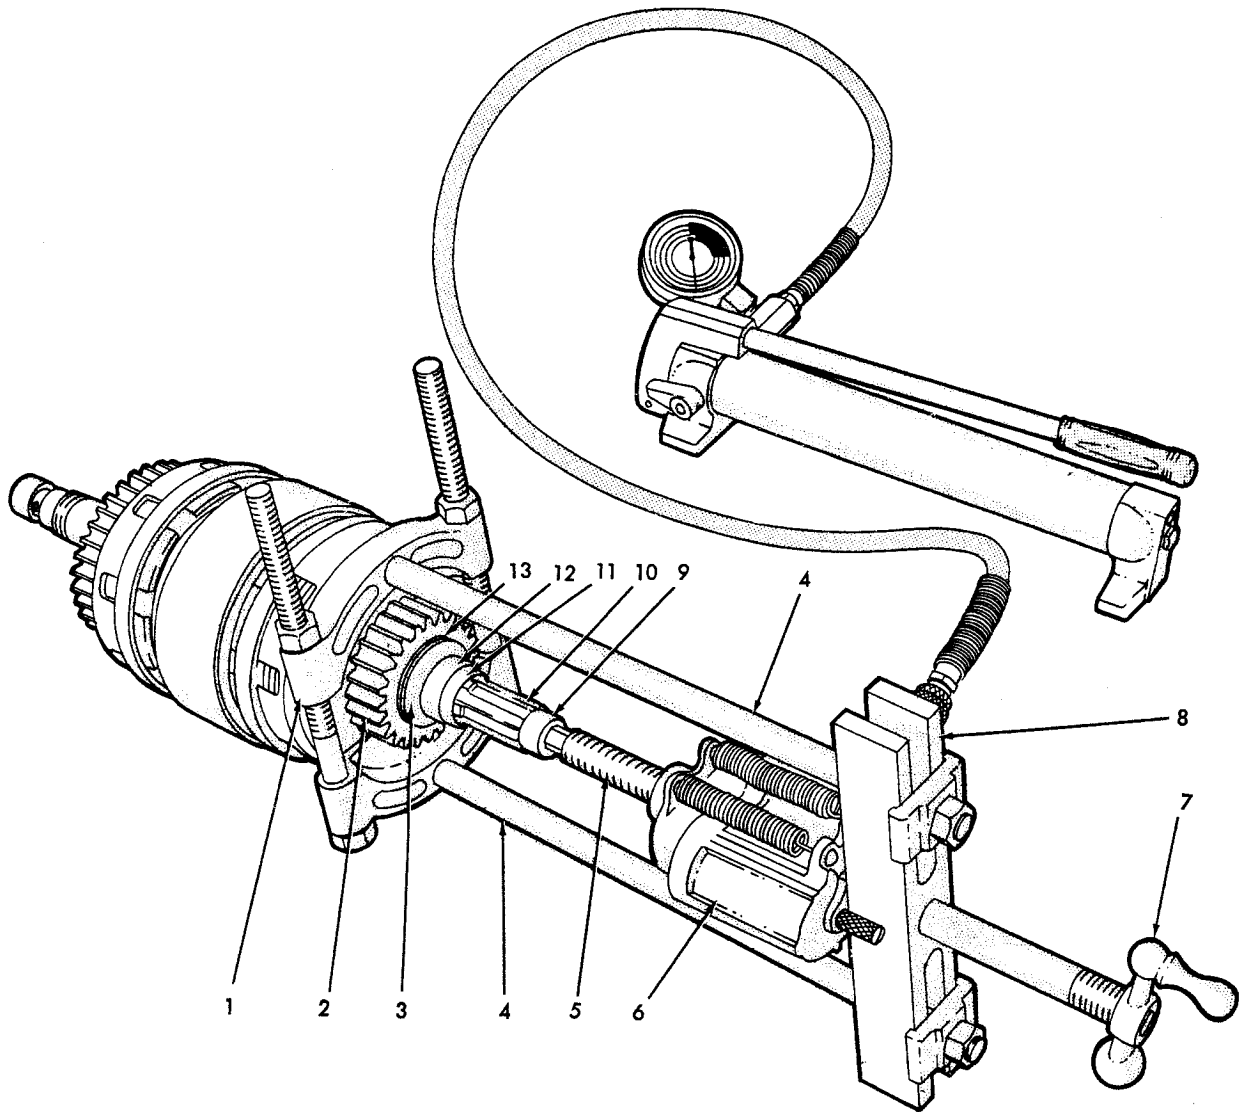

Fig. 32 -- Removing Rear Clutch Drum and Gear
- a. Remove snap ring from rear end of shaft. Attach puller behind rear clutch drum gear teeth, Fig. 32; pull oil seal sleeve (top shaft only), rear bearing inner race, rear bearing spacer, rear clutch drum and gear, and clutch drum thrust washer as an assembly.